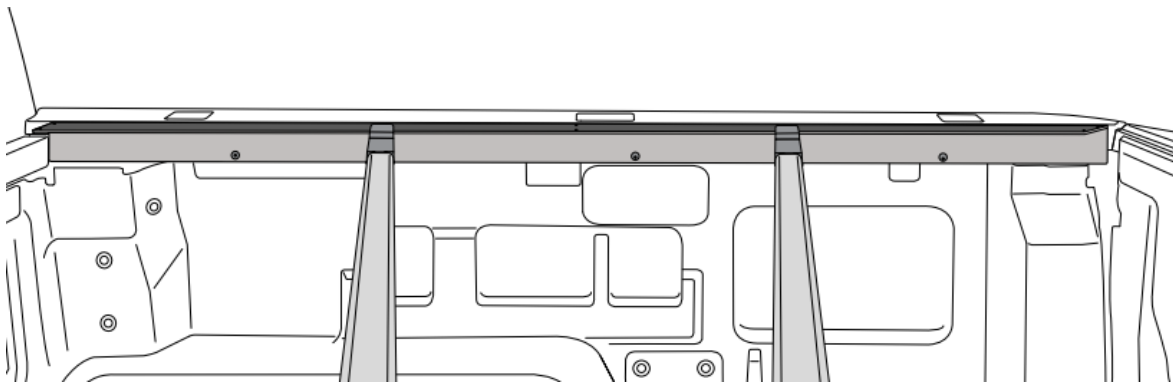

Figure 8
- Make sure the two support bars are seated in place with good velcro contact by pushing lightly on the centre of the two Support Bars. *See Figure 8*